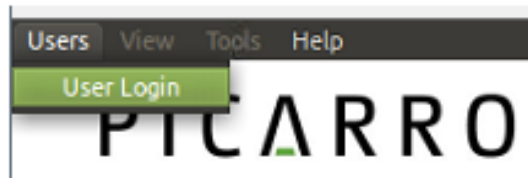

Figure 43: User Login Tab
- a. On the Menu Bar click on **Users** and choose User Login. Figure 43.